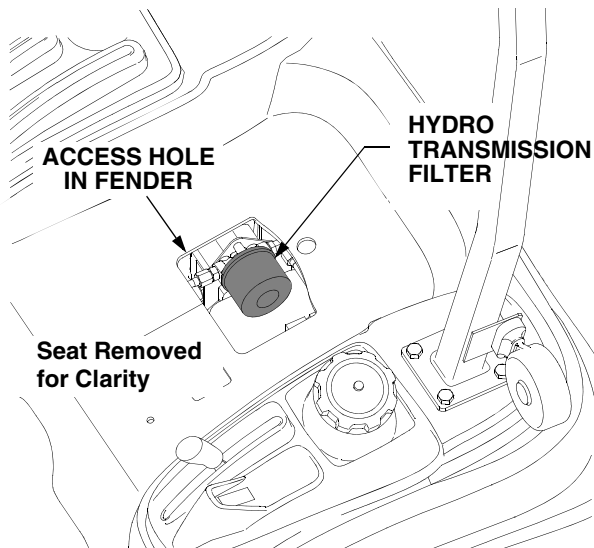

Figure 45
- Through the access hole in the rear fender, clean the area around the hydro transmission oil filter to prevent debris from entering the hydraulic system. Refer to Figure 45.
- Stuff shop rags underneath the hydro transmission filter to absorb any lost oil when the filter is removed. Refer to Figure 45.